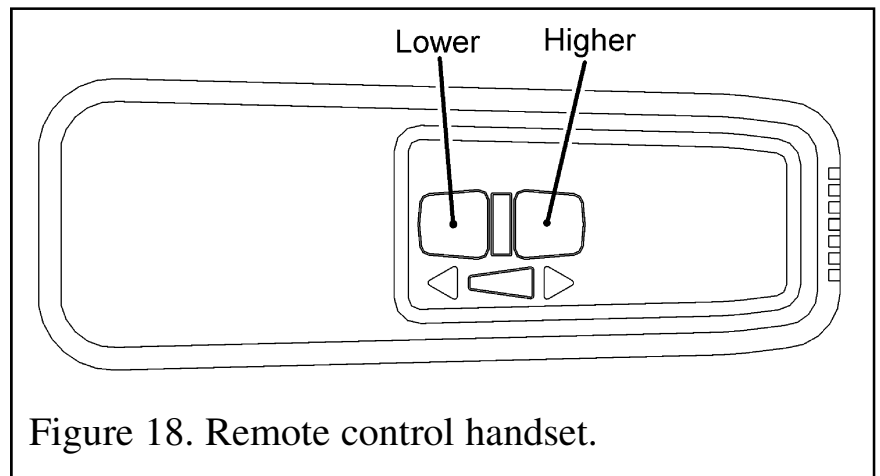

Figure 18. Remote control handset.
**1.** Keep the pilot burner at the "main burner on" position. Check the full range of main burner heat settings using the remote control handset. In order to vary the flame effect between High and Low positions, press, and keep depressed, either the High button, or the Low button as appropriate (See figure 18).